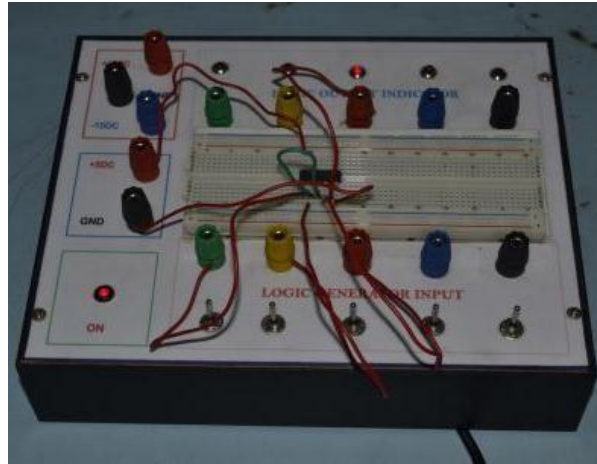

Figure 5.4: Practical set up for generation of P1 using IC 7486
- v. Generation of P_1 is shown in figure 5.4
- i. Mount EX-OR IC on bread board as shown in figure 5.4
- i. Mount EX-OR IC on bread board as shown in figure 5.4.